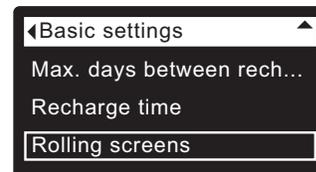

FIG. 55
3. Press the **SELECT** (O) button to display the Basic settings menu (See Figure 55).
7. To un-select a screen, make sure its name is highlighted in a box. Then press the **SELECT** (O) button. The black square will disappear. Pressing **SELECT** (O) again makes the black square reappear and re-selects the highlighted item. At least one screen must be selected/highlighted.
8. When selections are complete, exit this menu by pressing the **LEFT** (◀) button. The display will go back to the Basic settings menu (Figure 55).